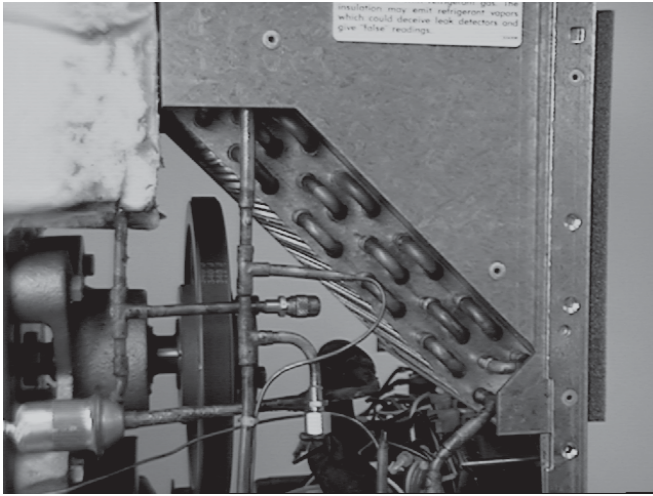

Figure 39. Condenser
4. Drill out the four blind rivets holding the condenser to the freezer frame and the two rivets holding the shroud to the condenser frame. Figure 39.